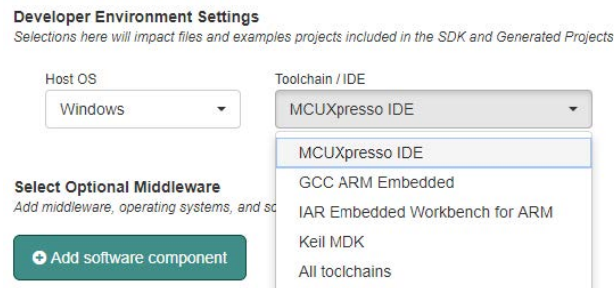

Figure 8. Selecting OS and toolchain
4. Select your OS and then the preferable toolchain (or all of them), as shown in Figure 8.